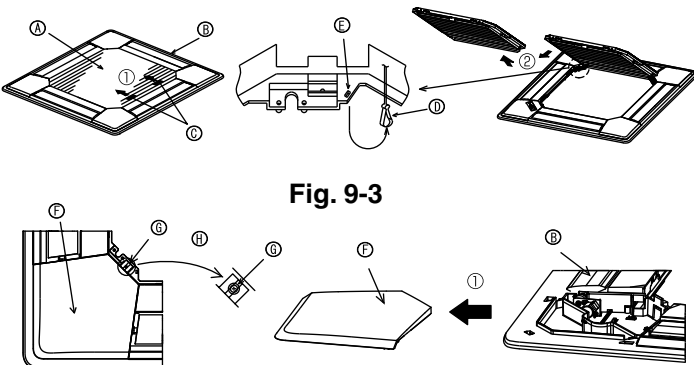
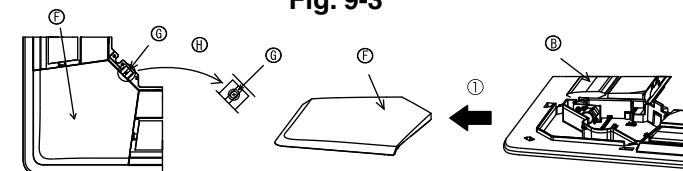

Fig. 9-3
Fig. 9-4
9.2.1. Removing the intake grille (Fig. 9-3)
- Slide the levers in the direction indicated by the arrows ① to open the intake grille.
- With the intake grille in the "open" position, remove the hinge of the intake grille from the grille as indicated by the arrows ②.
9.2.2. Removing the corner panel (Fig. 9-4)
- Remove the screw from the corner of the corner panel. Slide the corner panel as indicated by the arrow ① to remove the corner panel.
[Fig. 9-3] [Fig. 9-4]